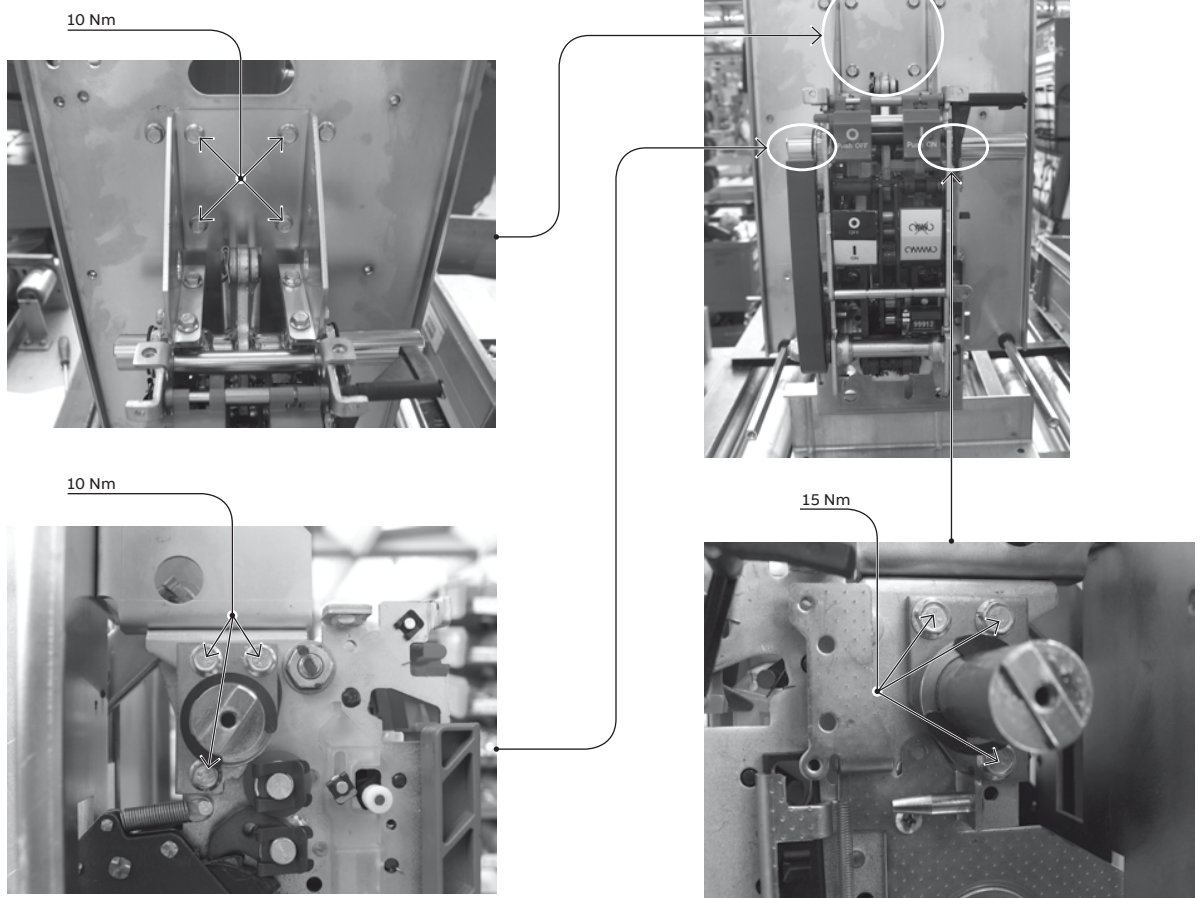

Figure 25
- The screws and nuts are tightened in the factory and correct tightening is indicated by a coloured mark. No further tightening should be required during the operating life of the circuit breaker. However, if the screws or nuts must be retightened after maintenance work or other, always comply with the values indicated in fig. 25.